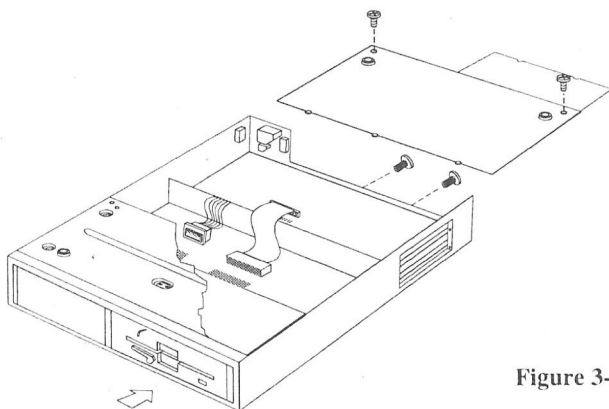

Figure 3-5
11. Replace the black, hinged rear/bottom panel (see figure 3.5).